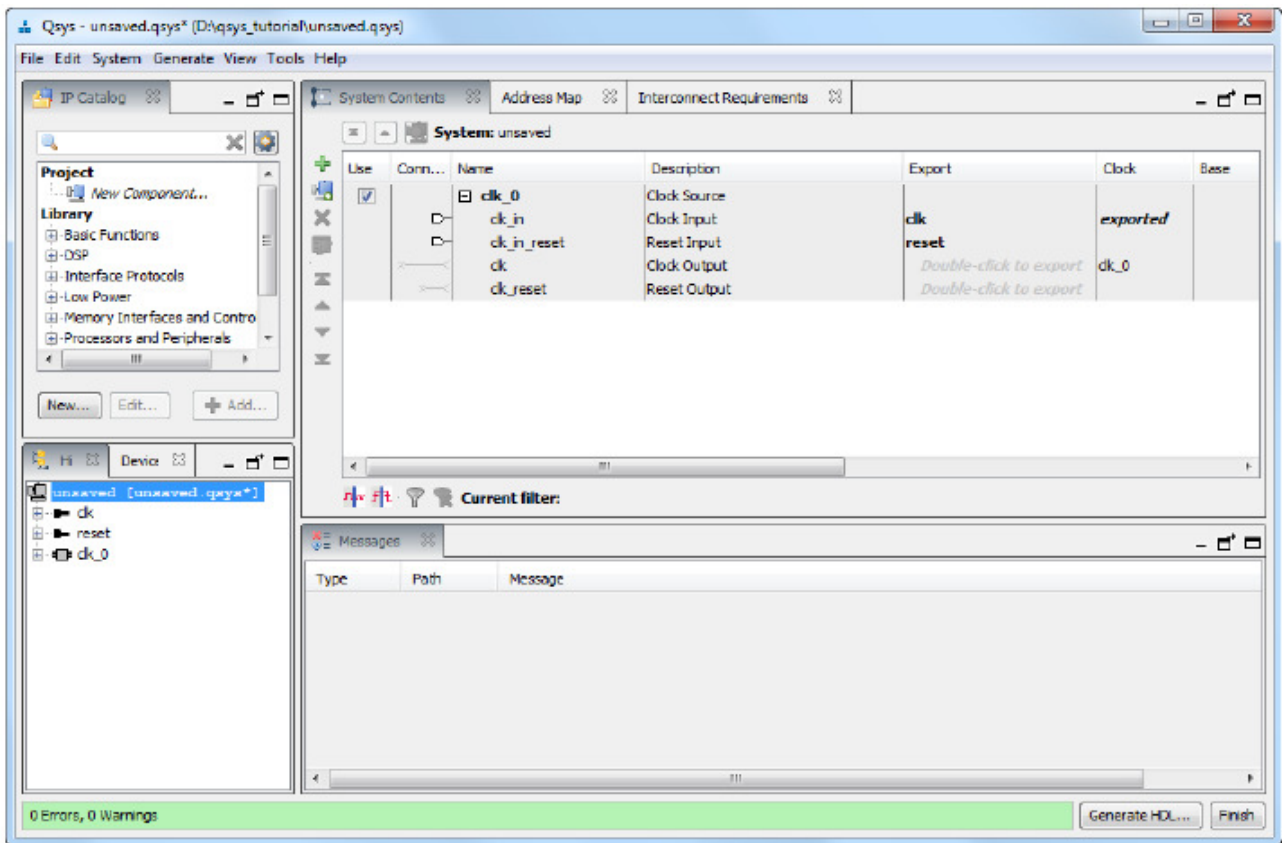

Figure 4 Create a new Nios II system
2. After completing the New ProjectWizard to create the project, in the main Quartus Prime window select **Tools > Qsys**, which leads to the window in Figure 4. This is the System Contents tab of the Qsys tool, which is used to add components to the system and configure the selected components to meet the design requirements. The available components are listed on the left side of the window.